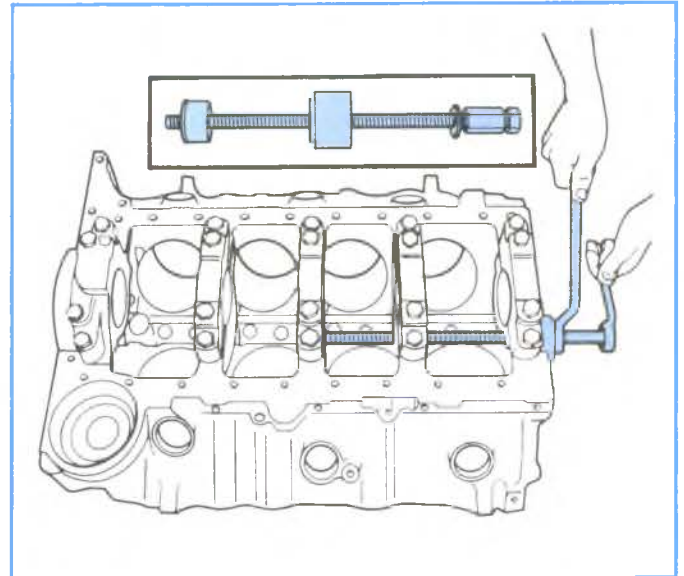

Figure 2-28, Removing or Replacing Camshaft Bearings
• REMOVAL (FIGURE 2-28)
4. Using two wrenches, hold puller screw while turning nut. When bearing has been pulled from bore, remove remover and installer tool and bearing from puller screw (Figure 2-28).